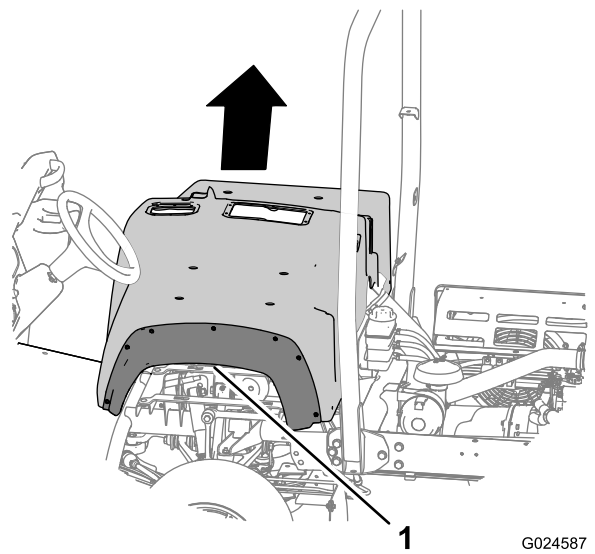

Figure 13
3. Lift the seat shroud up and remove it from the machine (Figure 13).